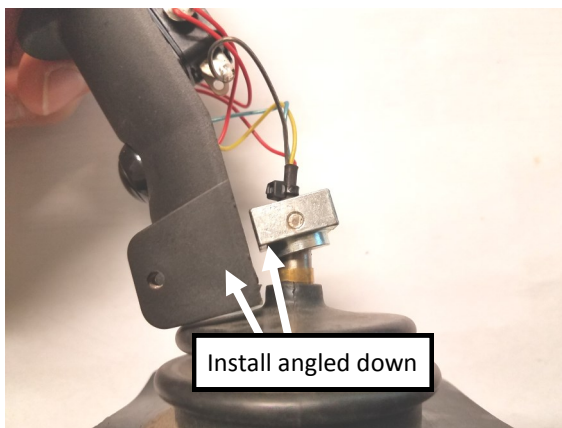

Figure 11
13. Slide the front half of the joystick cover into place as per (figure 11). **Note: The front half will install on the slant side.**